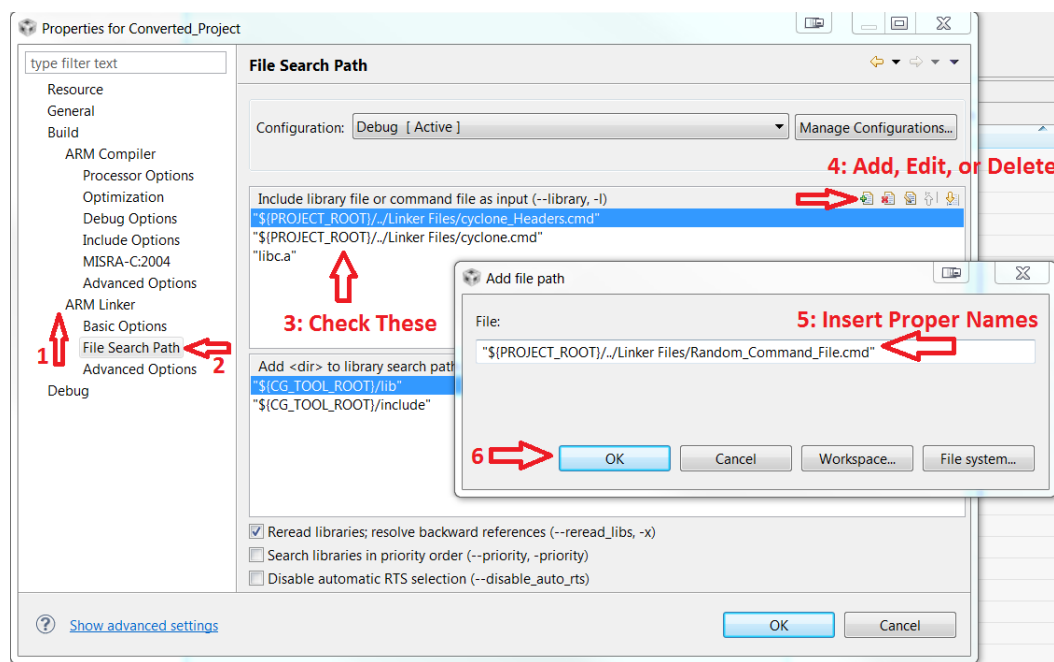

Figure 11: Project Properties
- 2) Use one of the buttons to the side to Add, Edit, or Delete the command file as directed in steps 3 through 5, and depicted in Figure 11 below.